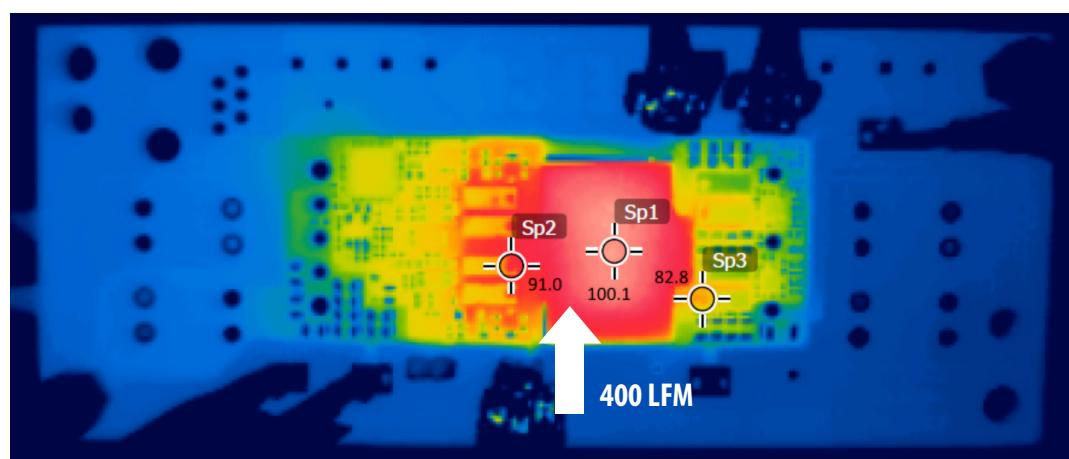

Figure 6: Thermal images of EPC9115. Operating conditions: 400 LFM (2 m/s) forced convection, ambient temperature 27 °C, thermal steady state.
**THERMAL MANAGEMENT:** The EPC9115 demo board has no on-board thermal protection. Thermal images for steady state full load operation are shown in Figure 6. The EPC9115 is intended for bench evaluation with nominal room ambient temperature and forced air cooling. Operation without forced air cooling is possible for limited power operation. It is recommended that the maximum temperature on the EPC9115 not exceed 125 °C.